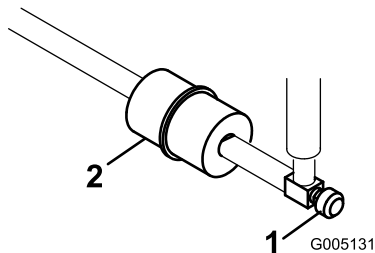

Figure 40
The in-line fuel filter is in the fuel line between the fuel tank and carburetor (Figure 40).
1. Close the fuel-shutoff valve (Figure 40).
2. Place a drain pan under the filter, loosen the hose clamp on the carburetor side of filter, and remove the fuel line from the filter (Figure 40).
3. Loosen the other hose clamp and remove the filter (Figure 40).